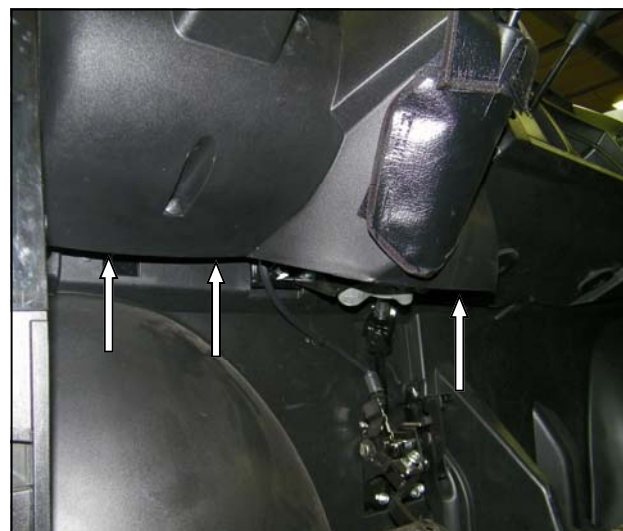

Fig. 14
14. Feed 9 pin connector on plow controller up under dash from left side of steering wheel just under the e-brake as shown in figure 14.